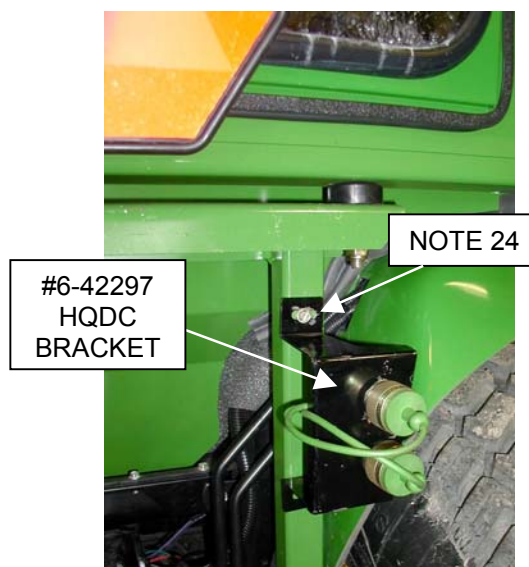

Figure 24
- 24) Some Models may require change out of the factory hydraulic quick disconnect bracket with #6-42297 (the one supplied with the mount kit). Check your model for proper clearance. Mount bracket by transfer-drilling and securing with (2) #10 self-tapping screws 3-11812. See Figure 24.